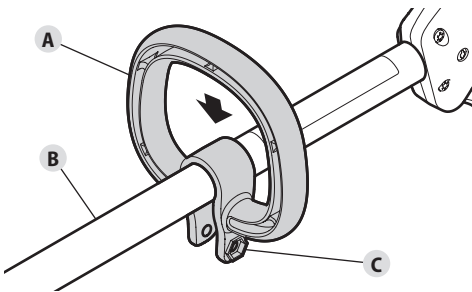

Fig. 8
1. Push the handle (Fig. 8-A) down onto the upper shaft housing (Fig. 8-B). Make sure the hex bolt hole faces to the left (Fig. 8-C).